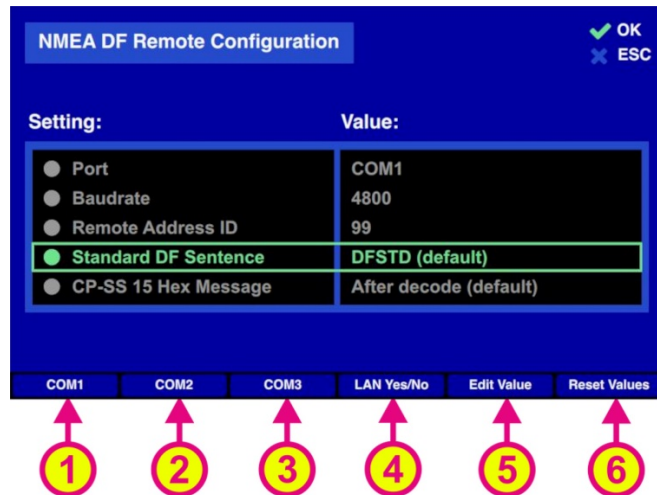
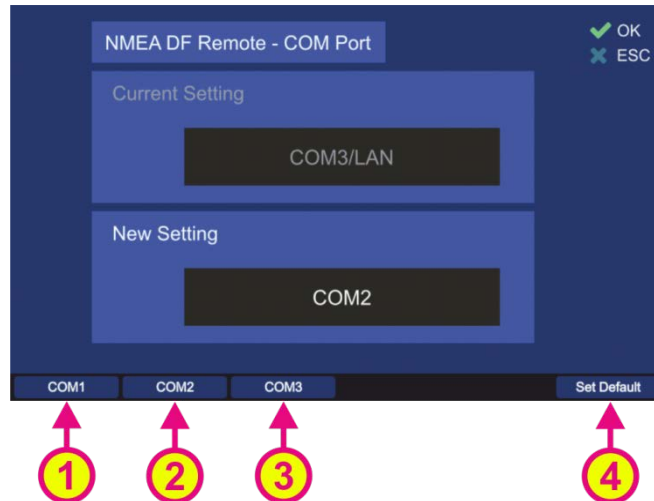

Fig. 141 NMEA DF remote control configuration
Fig. 142 Remote communication port configuration
Additionally, by choosing the combination “COM3/ LAN”, the NMEA sentences will be also sent via the LAN connection (s. Fig. 141, position 3).
Following sub-menu will appear (s. Fig. 141).
Pressing the hotkey “Reset Values” (s. Fig. 141, position 6) will set all menu items to default values.
- Pressing the hotkey “LAN Yes/No” (s. Fig. 141, position 4) will turn on the additional communication over LAN (pressing this hotkey again will turn the LAN communication off, see also 6.4.4.3).
- Pressing the hotkey “Edit Value” while “Port” is marked (s. Fig. 141), opens the following sub-dialog (s. Fig. 142).
- Selecting “COMx” (s. Fig. 142, positions 1, 2 and 3) configures the corresponding NMEA interface as the remote communication port.
This setting will only set the communication port. Additionally transmitting the NMEA sentences over LAN should be set in the top level menu (s. Fig. 141, position 4).
- To change the baud rate, press the hotkey “Edit Value” while the menu item “Baudrate” is marked (s. Fig. 141). The corresponding sub-dialog will be opened (s. Fig. 143).
- To change this Setting, press the hotkey “Edit Value” while the menu item “Remote Address ID” is marked (s. Fig. 141). The corresponding sub-dialog will be opened (s. Fig. 143).